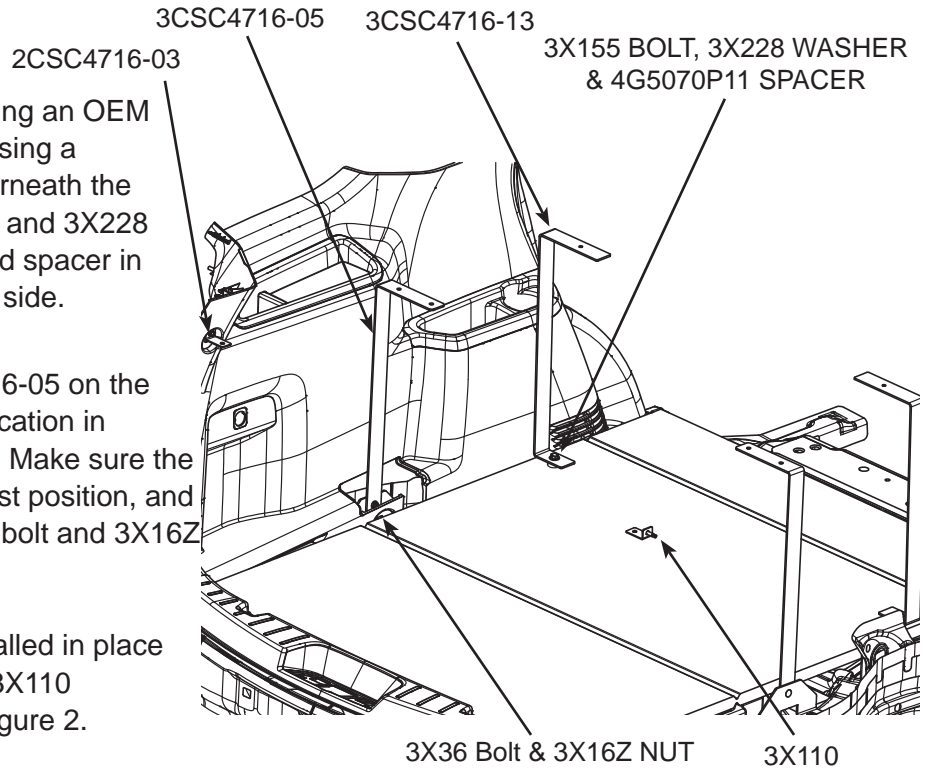

Figure 2
- C. Brackets 2CSC4716-03 are installed in place of the rear cargo hooks using a 3X110 self-drilling screw as shown in Figure 2.